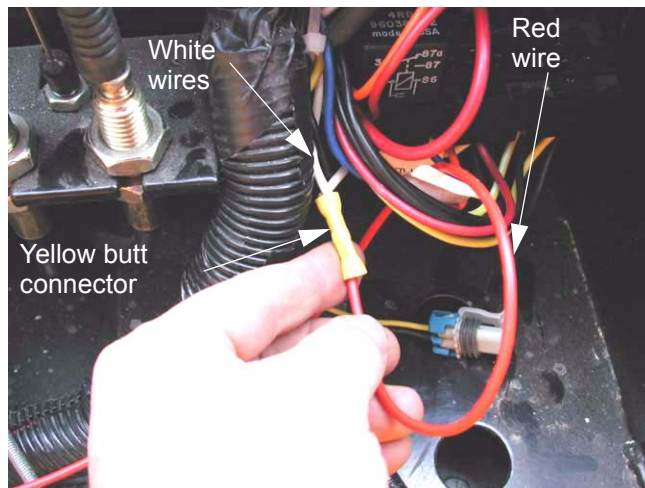

Figure 1.16
- 1.16. Fold the stripped end of the red wire back on itself, and crimp it securely into the other end of the yellow butt connector. See Figure 1.16.